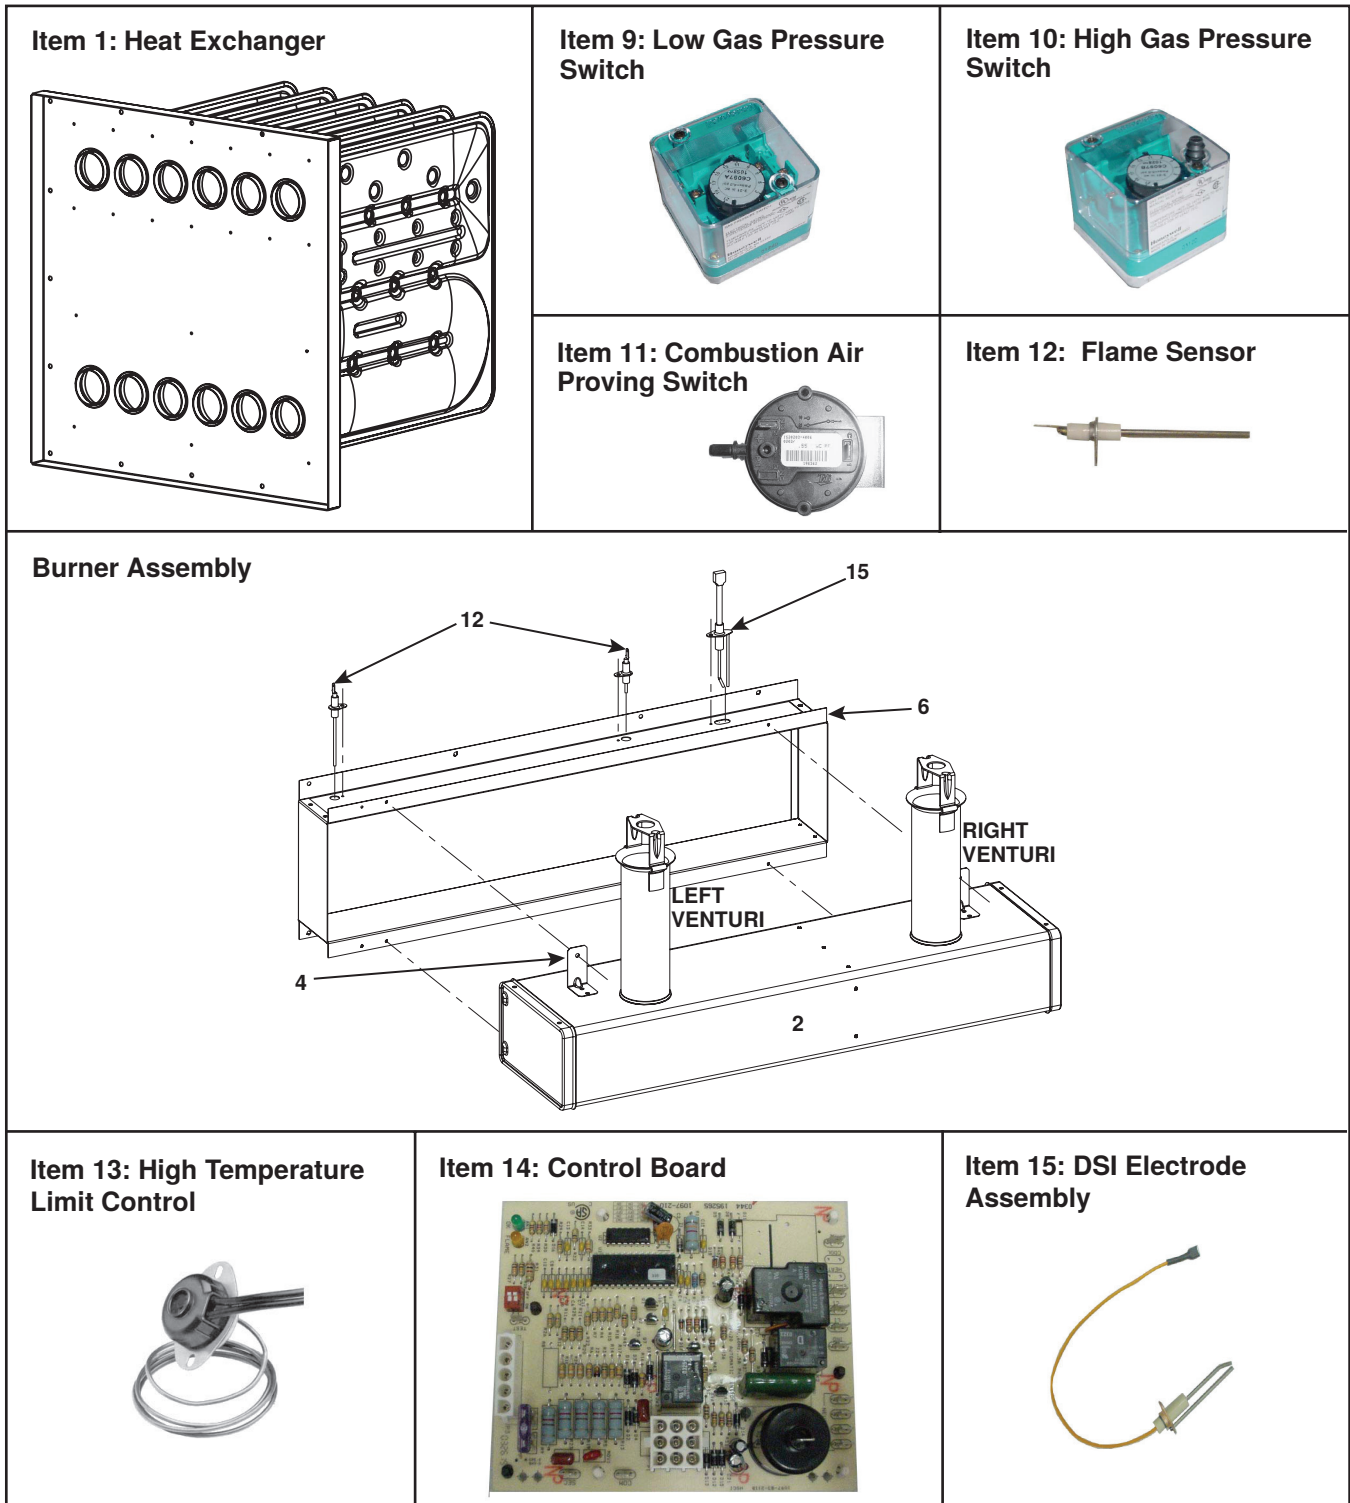
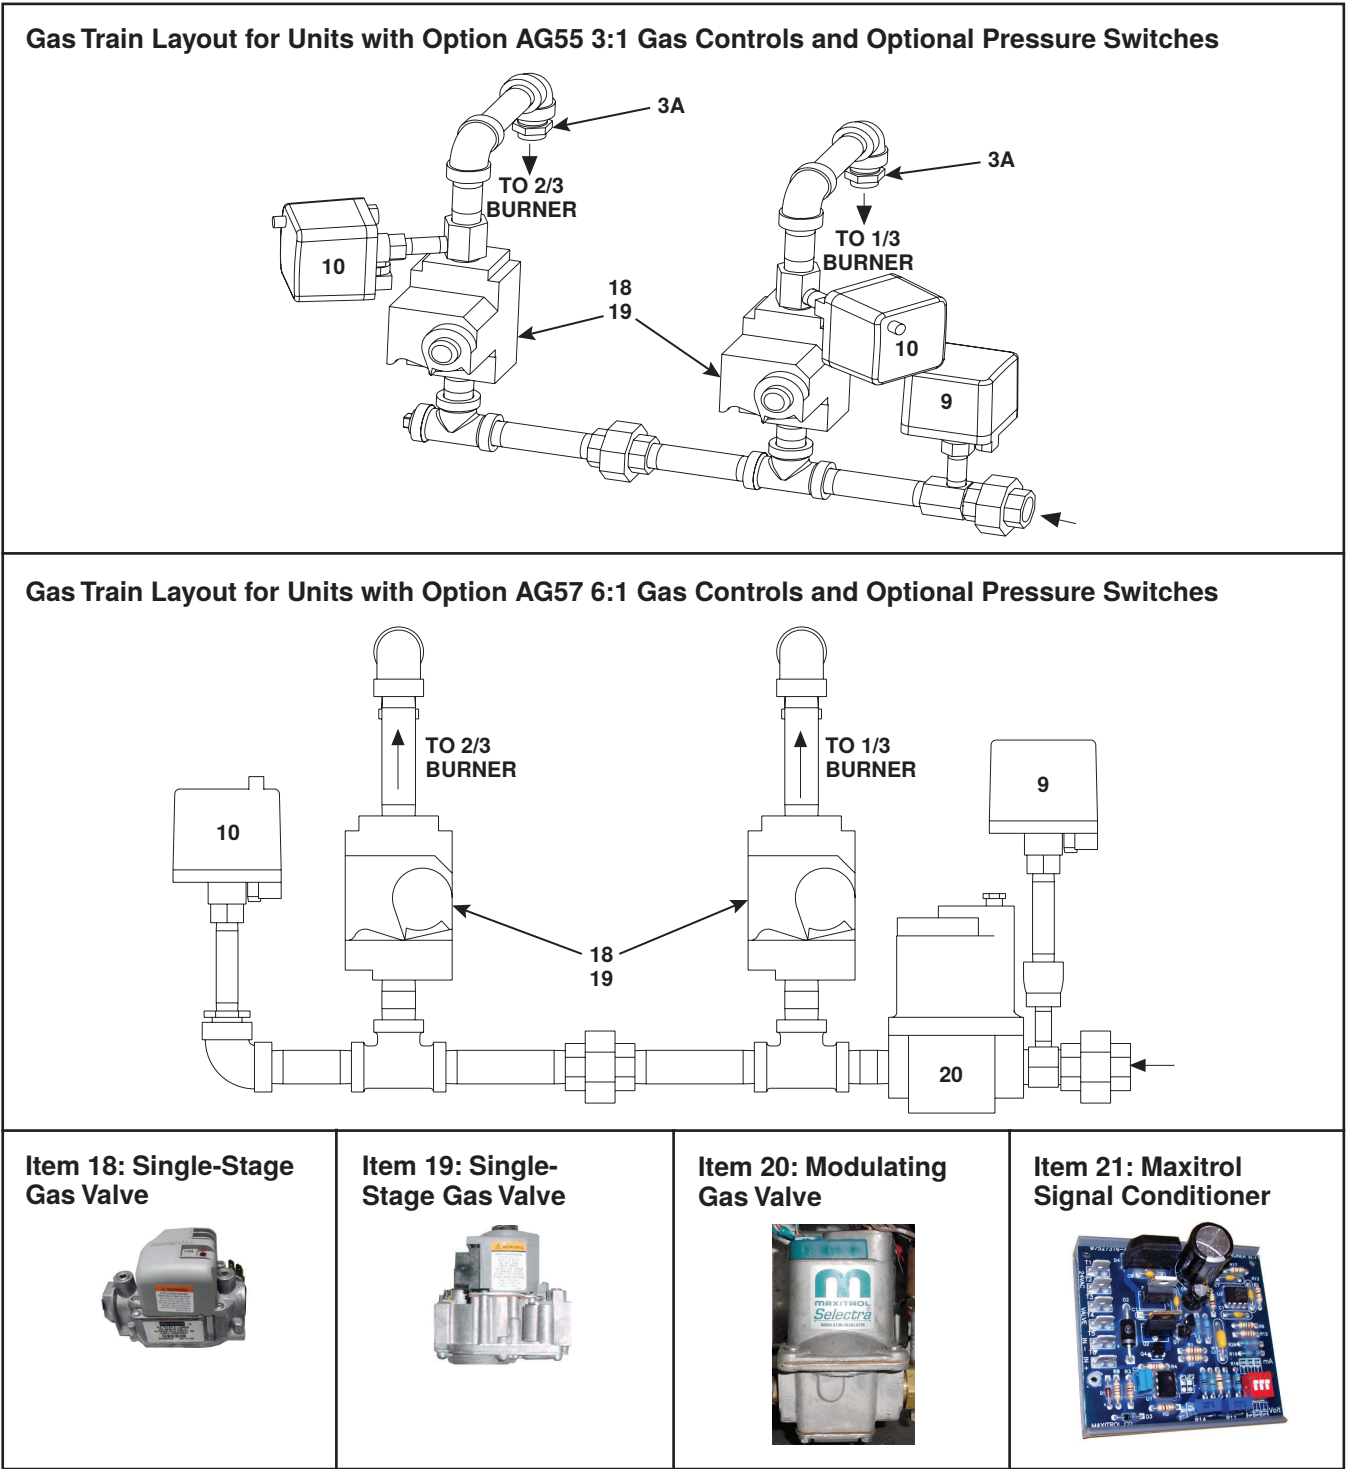
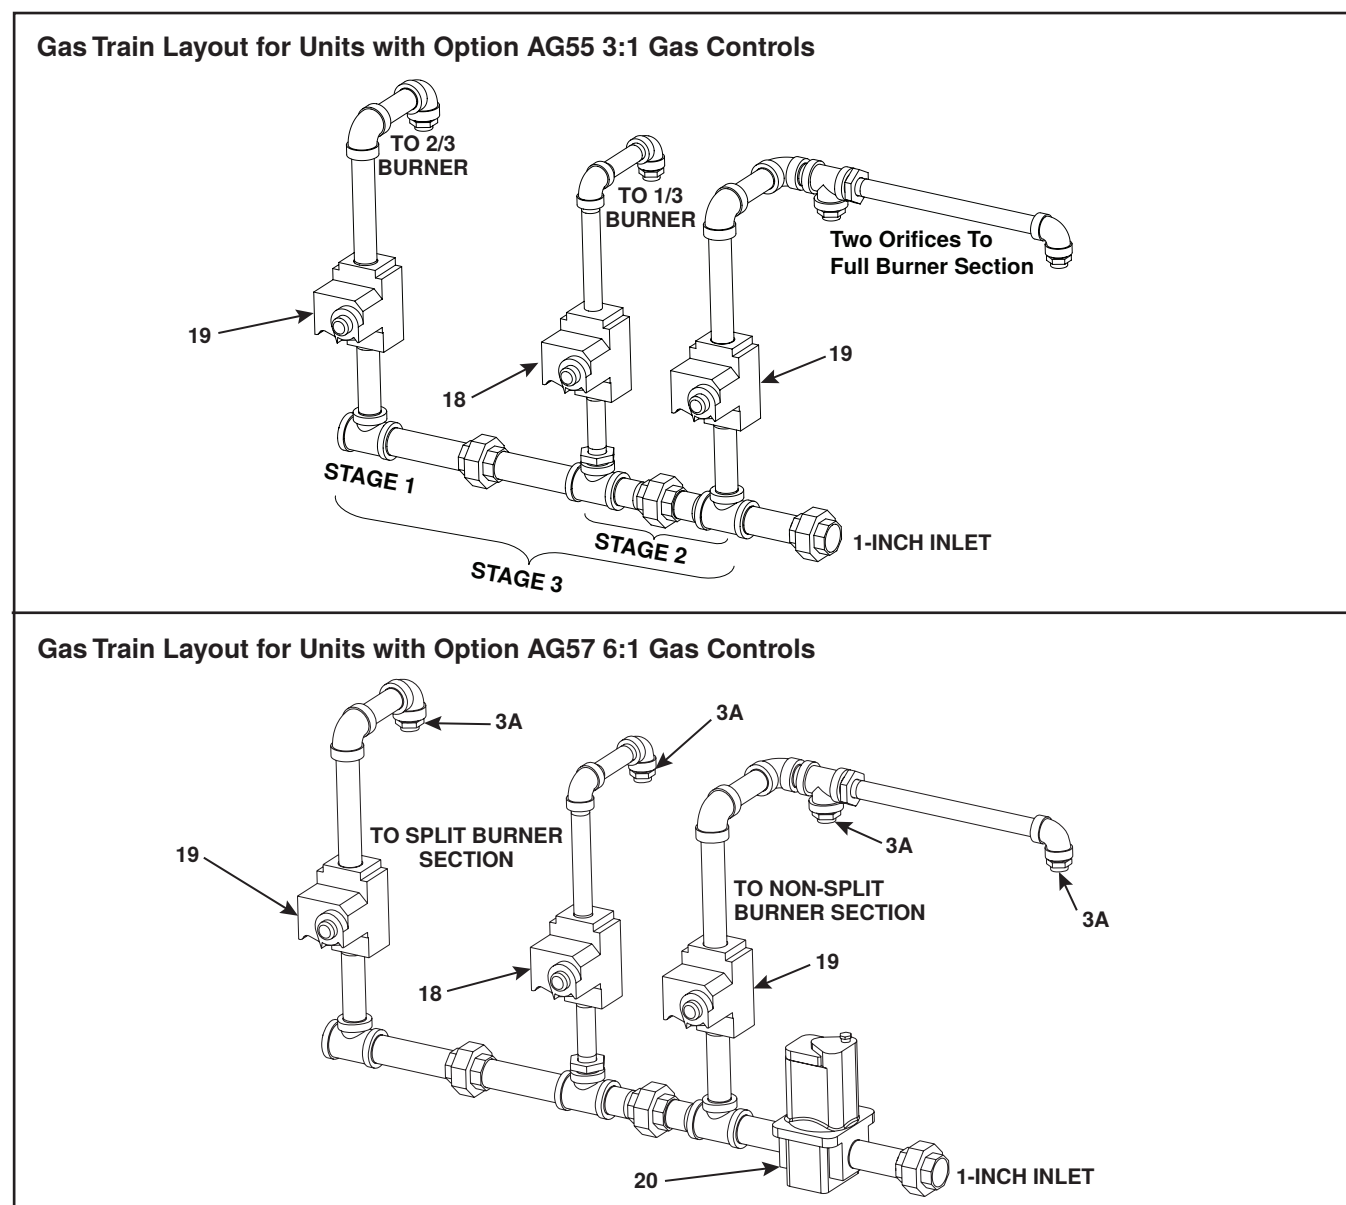
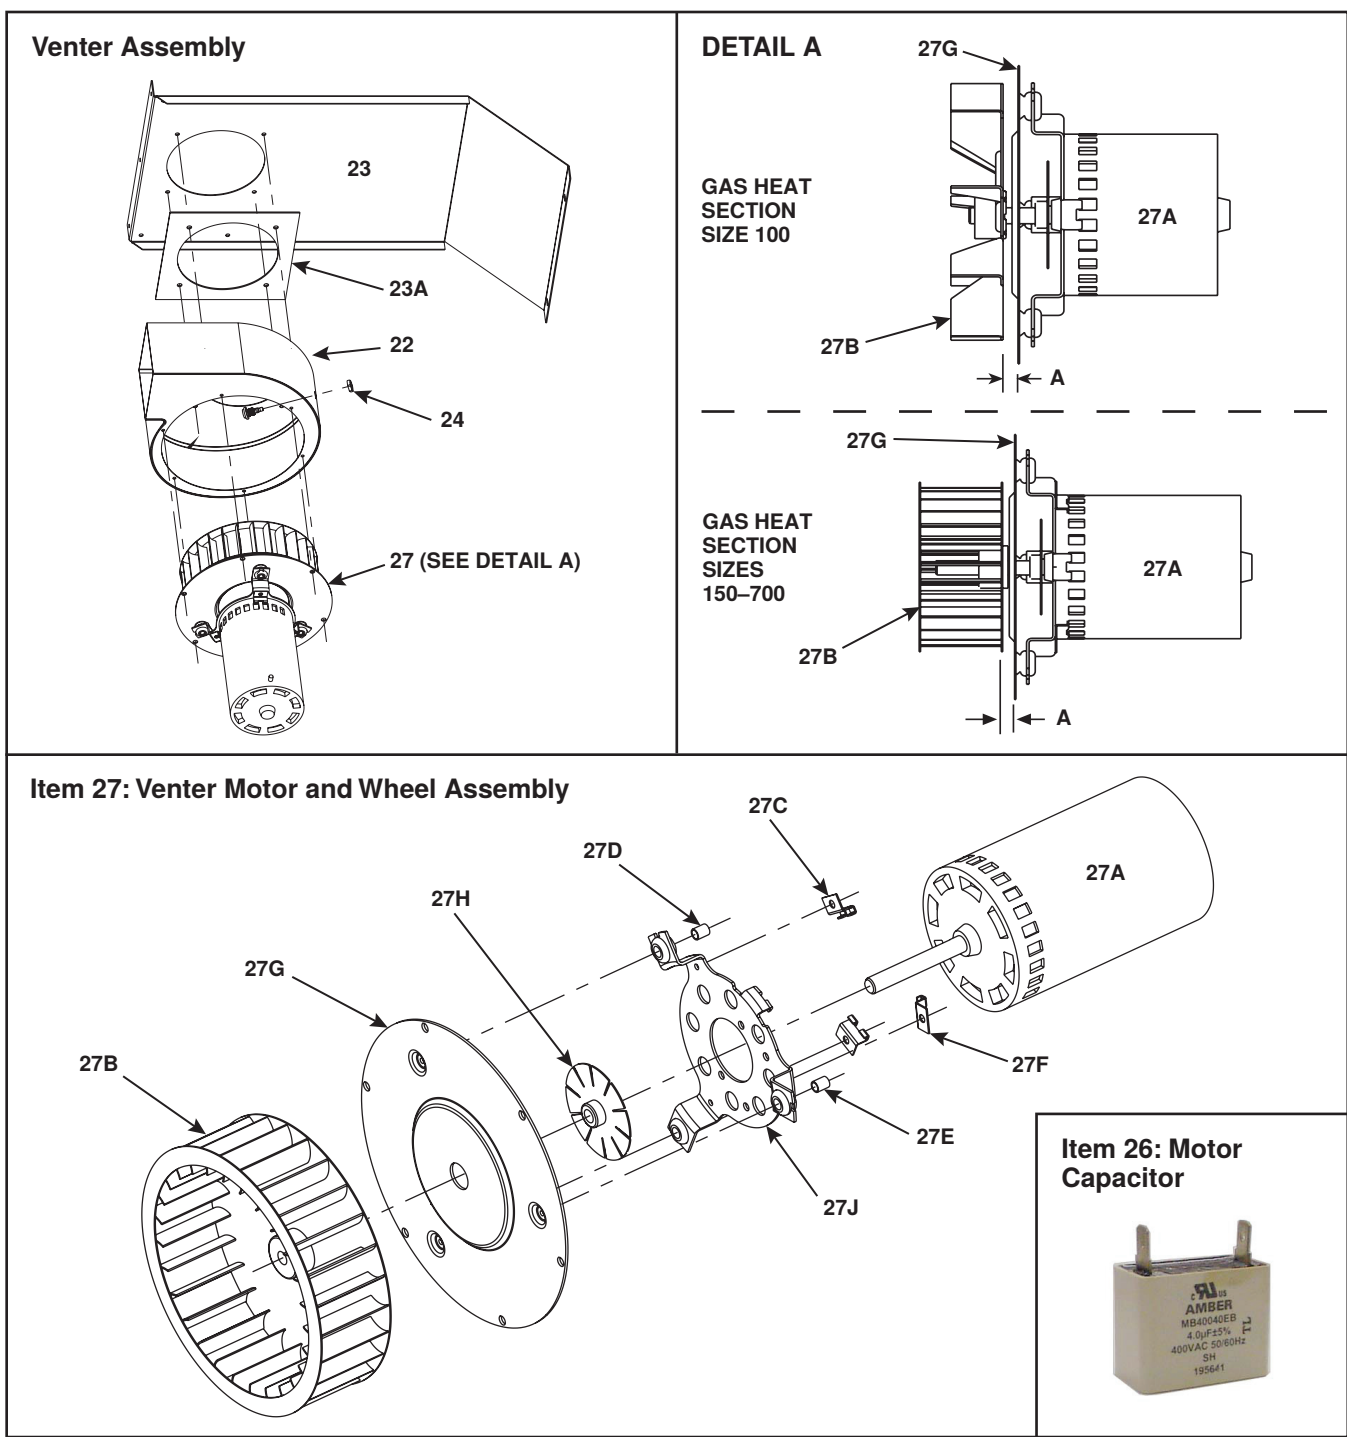

Figure 18. Heat Exchanger, Burner Assembly, and Gas Heat Controls (Refer to Table 30)
Figure 19. Gas Train Assemblies—Gas Heat Section Sizes 100–400 (Refer to Table 30)
Figure 20. Gas Train Assemblies—Gas Heat Section Sizes 450–700 (Refer to Table 30)
Figure 21. Venter Assembly (Refer to Table 30)
- Gas heat section components are shown in Figure 18, Figure 19, Figure 20, and Figure 21 and are listed in Table 30.
Fan spacing (see dimension A in Figure 21, DETAIL A) varies in accordance with gas heat section size as follows: